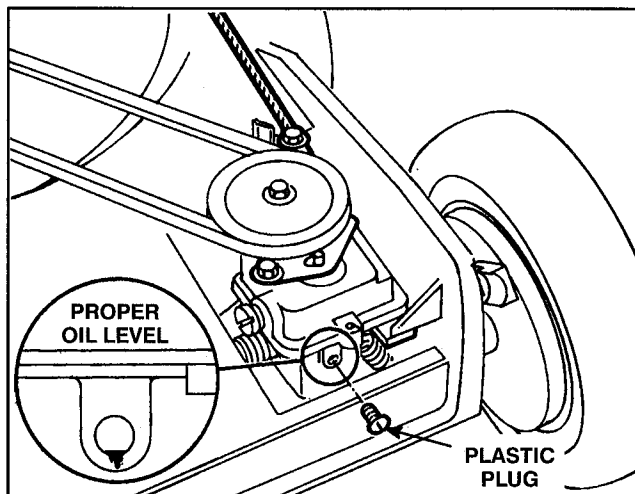

Figure 19
3. **CHECKING GEAR OIL LEVEL** (Fig. 19)—Position mower on level surface and clean around plastic plug. Remove plastic plug and watch for oil to ooze out of hole. If gear oil oozes out, quickly install plastic plug because oil is at proper level. If oil does not flow, add gear oil: see step 4.